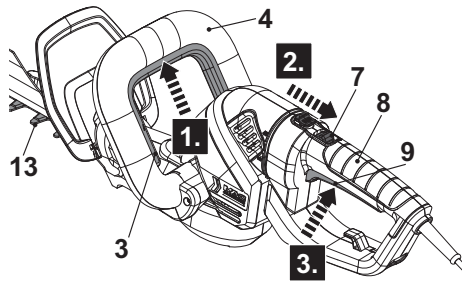

Fig. 8
1. Ensure the cutting device (blade) (13) does not touch any objects. Remove the blade cover (14) from the cutting device (blade) (13) before switching the product on.
2. Hold the product with one hand on the front handle (4) and the other hand on the rear handle (8).
3. Squeeze the safety switch (3) and hold it in position (Fig. 8, step 1).
4. Firstly pull back the lock-off button (7) to release it (Fig. 8, step 2), then squeeze the on/off switch (10) to switch the product on (Fig. 8, step 3).
5. Release either the on/off switch (9) or the safety switch (3) to switch the product off.